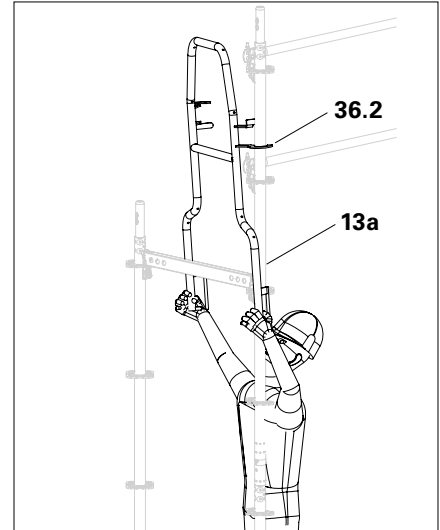

Fig. A5.13b
3. Swing the end guardrail in advance halfway down and hook the fork (36.2) onto the outer standard. (Fig. A5.13b)